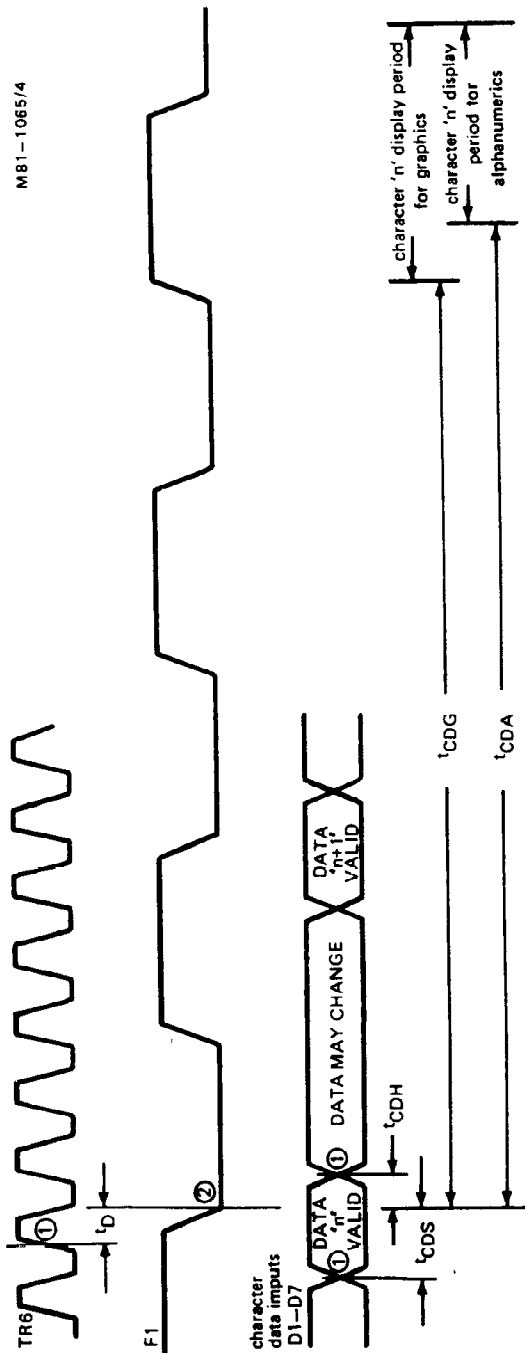

Fig.4 Character data timing (for typical 40 character display)
**Character data timing (Fig.4)**